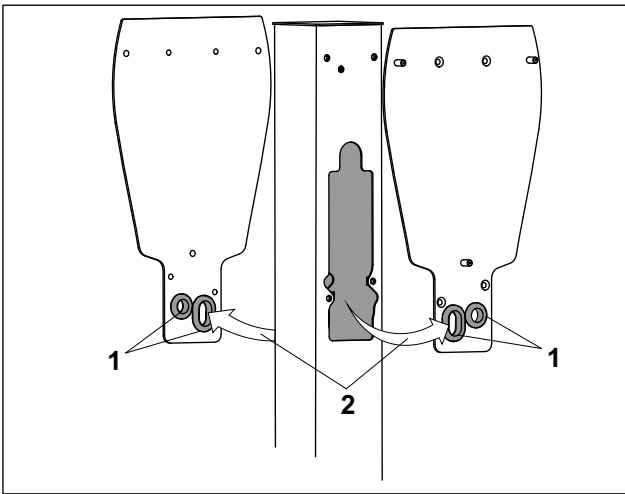

Fig. 3 Cable entry into the adapter plates
1. The adapter plates provided have separate cable feed-throughs for the power cables and the data cables. Fasten the matching cable protecting sleeves (Fig. 3/1) contained in the separate parts set to the cable outlet openings of the adapter plates. If no data cables are used, you must seal the corresponding cable outlet openings with the capping elements provided.
2. Route the cables out of the column (Fig. 3/2) through the corresponding cable openings in the respective adapter plate.